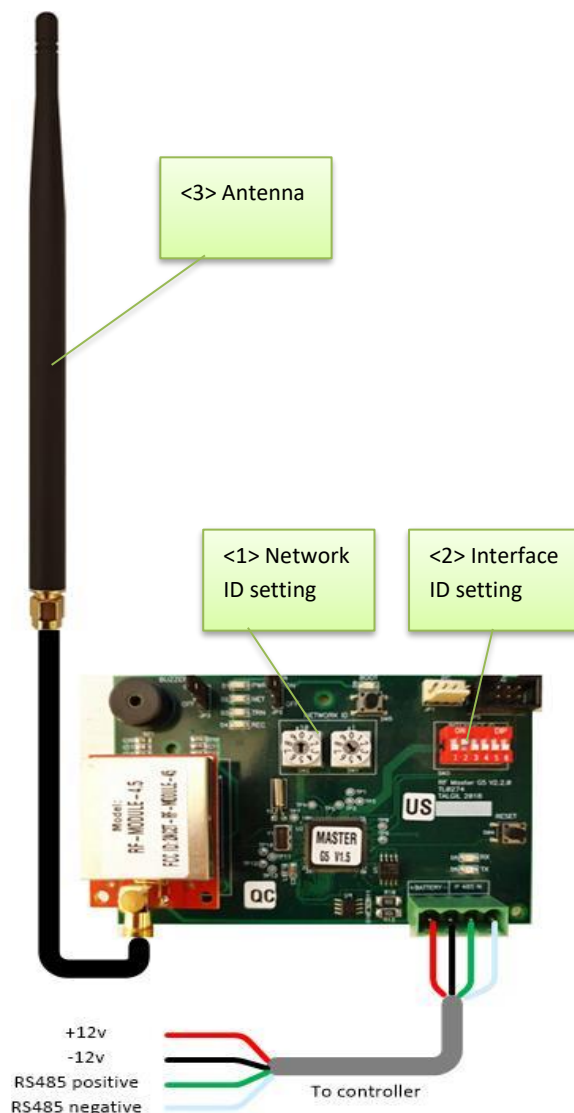

Figure 4
1. **Setting the NETWORK ID** – Use the rotary switches (Figure 4 <1>) to set the NETWORK ID. Make sure to select a unique ID which does not exist in neighboring systems.
2. **Setting the INTERFACE ID** – Use the DIP switches (Figure 4 <2>) to set the INTERFACE ID as explained above. Remember to use binary coding.
3. **Placing the antenna** – The antenna of the MASTER (Figure 4 <3>) should be installed in a high place at which there will be clear line of sight with as many RTUs/ ROUTERS as possible. It should be placed in vertical position. Make sure that the body of the antenna will be above any metal part.
4. **Connection with the host controller** – the connection with the host controller is made by 2 pairs of wires (Figure 4 <4>). The red and black supply the +12v DC and -12v DC that energize the MASTER/INTERFACE board. The green (P) and the white (N) wires are the Positive and Negative of the RS485 communication line connecting between the host controller and the MASTER/INTERFACE.